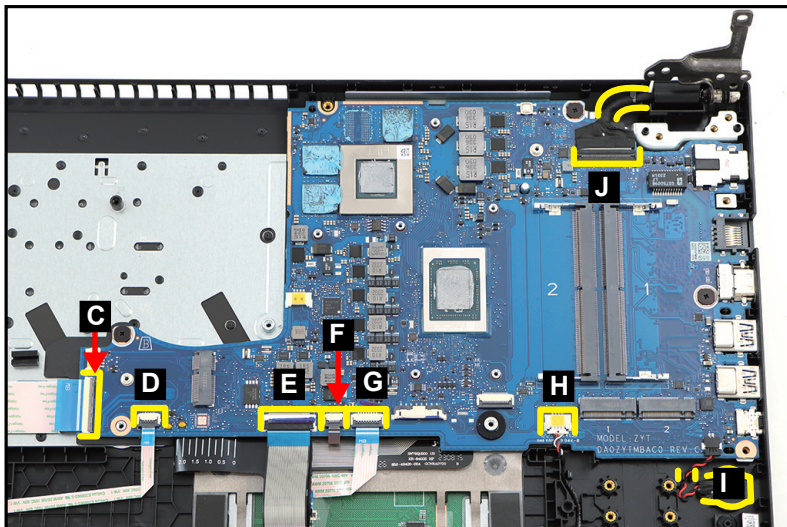

Figure 1-36. Mainboard Removal
5. Disconnect the USB board FFC from the mainboard connector (C) (Figure 1-36).
6. Disconnect the hall sensor board FFC from the mainboard connector (D) (Figure 1-36).
7. Disconnect the keyboard FPC from the mainboard connector (E) (Figure 1-36).
8. Disconnect the keyboard backlight FPC from the mainboard connector (F) (Figure 1-36).
9. Disconnect the touchpad FFC from the mainboard connector (G) (Figure 1-36).
10. Disconnect the speaker cable from the mainboard connector (H) (Figure 1-36).
11. Pry to detach the adhesive tape underneath the RTC battery (I). Then unroute the RTC battery cable from the cable guides as shown in Figure 1-36.
12. Disconnect the eDP cable from the mainboard connector (J). Then unroute the cable from the cable guides as shown in Figure 1-36.